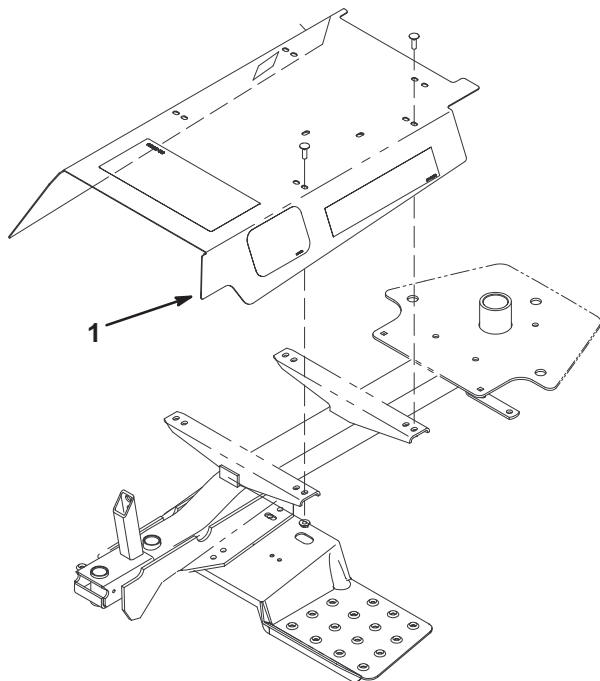

Figure 3
11. Remove the (4) carriage bolts and nuts securing the skirt assembly to the frame (Fig. 3). Also, remove the capscrew securing the skirt to the fuel filter bracket.